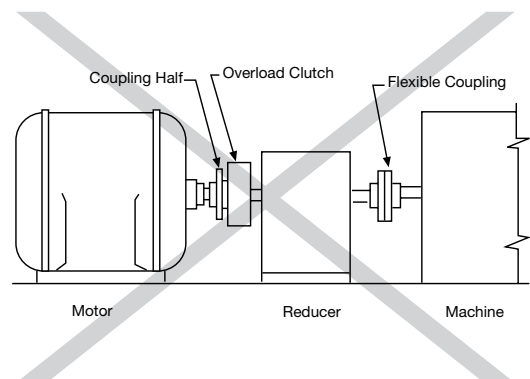
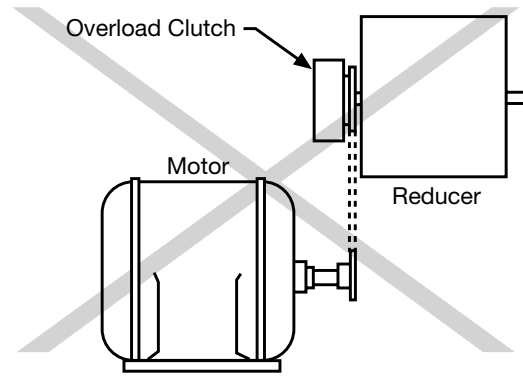

Figure 10
Figure 12
- b. Locating the clutch as shown in Figure 10 is not preferred. Here the clutch is mounted on the high-speed side of the reducer. Generally, mounting in this manner requires the clutch to be hypersensitive to perform satisfactorily.
- b. The mounting location in Figure 12 is not preferred for the same reasons as those for Figure 10. Always consult the factory when a mounting of this type is necessary.